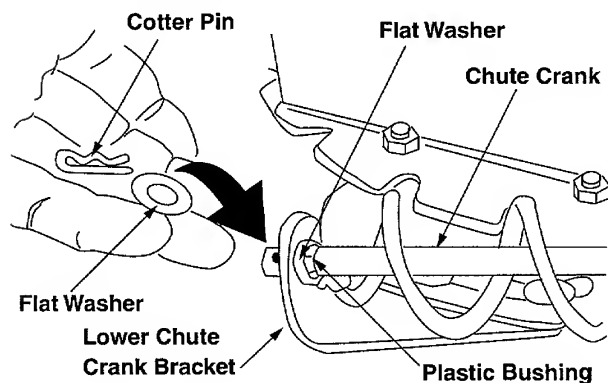

Figure 9
- Place one 3/8 ID flat washer (from group G of the hardware pack) on the end of the chute crank, then insert the end of the crank into the eye hole in the plastic bushing in the chute crank bracket. See Figure 9.
- Place the other 3/8 ID flat washer (from the same group of hardware) on the end of the chute crank and insert hairpin clip into eye hole at the end of the chute crank. See Figure 9.